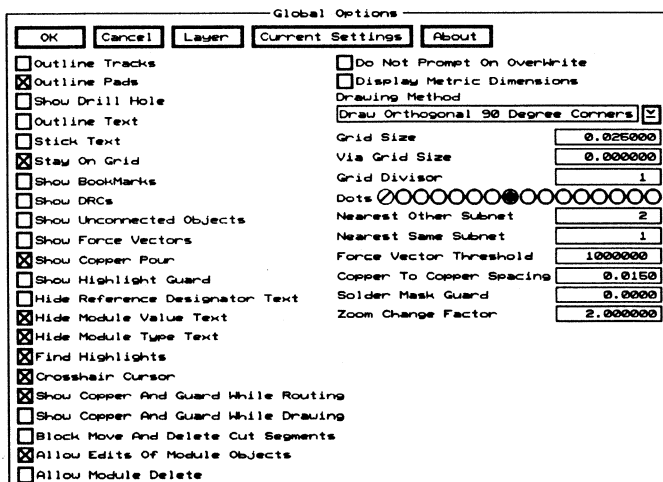

Figure 4-5. The **Global Options** dialog box.
2. Select SET. The **Global Options** dialog box (figure 4-5) displays.